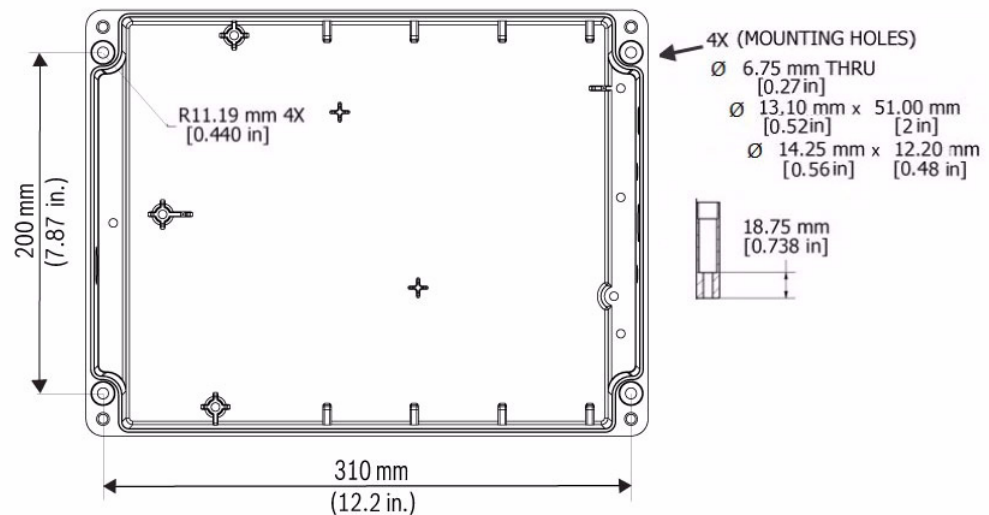

Figure 3.5 MIC IP PSU Mounting Dimensions
3. Locate the four (4) mounting holes of the PSU (see *Figure 3.5*). The dimensions shown are for the mounting holes only. The other four (4) holes shown are for securing the lid.